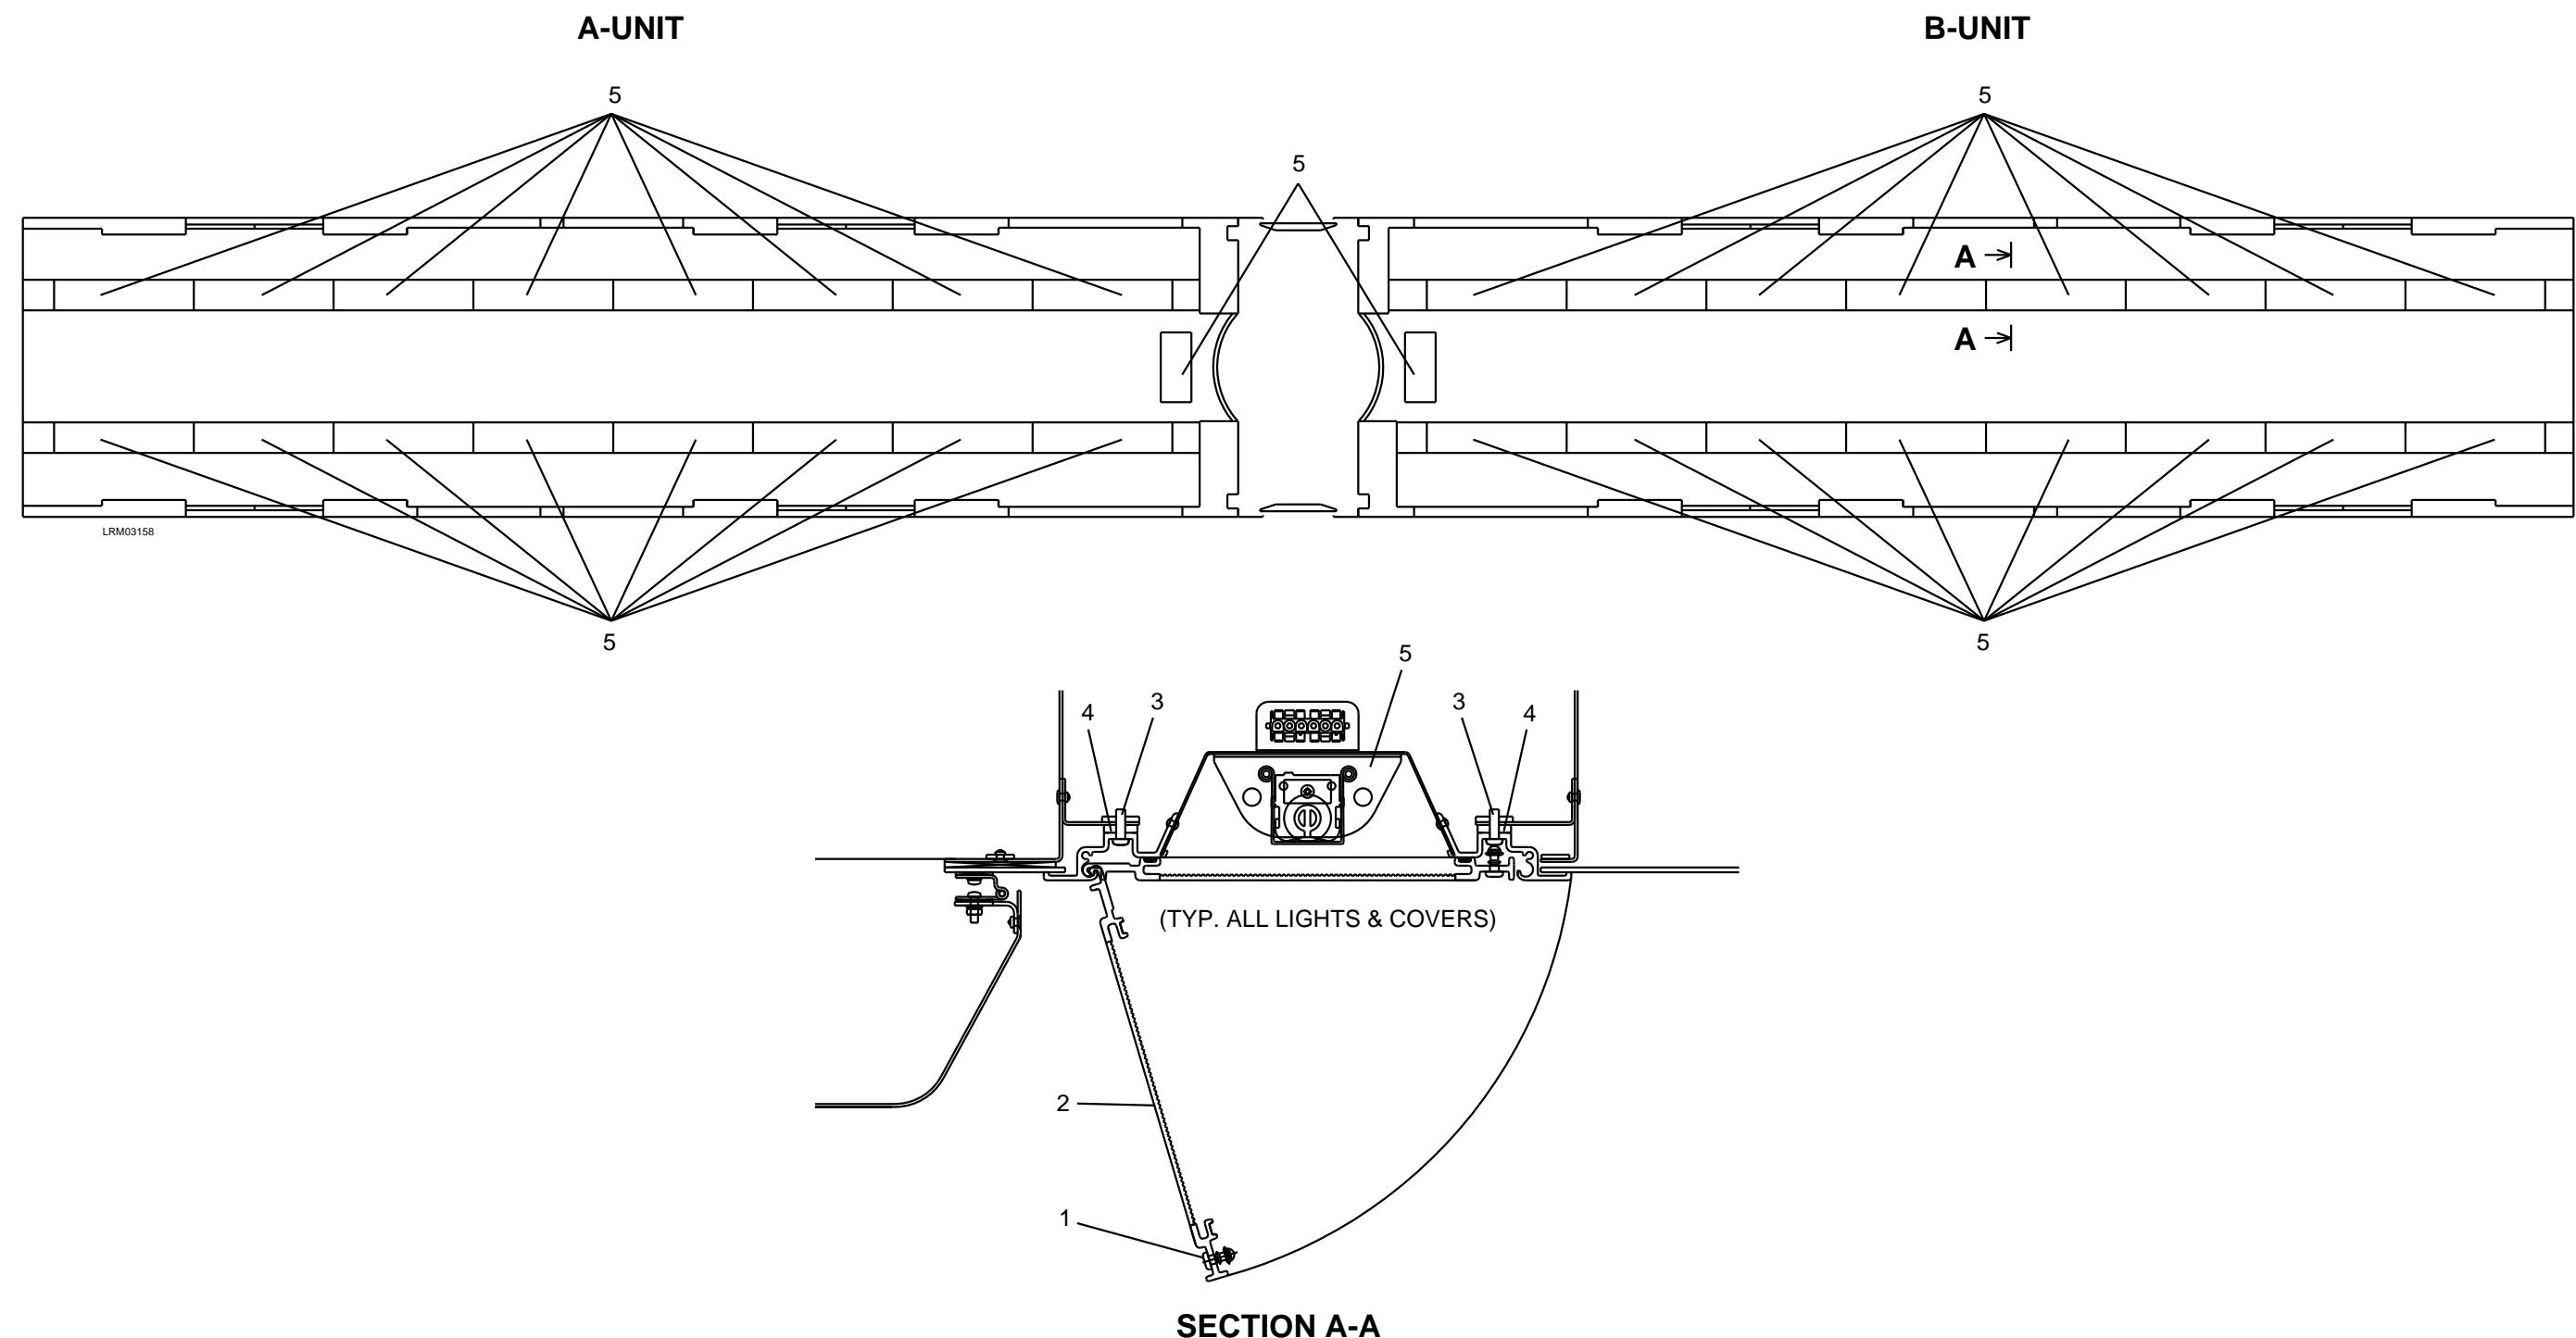

Figure 7-85: Ceiling Lights
1. Turn the three screws (1) counterclockwise one-quarter turn to release the ceiling light cover (2). See Figure 7-85.
2. Remove the eight M4 x 16 screws (3) and liners (4).
3. Lower the Ceiling Light (5) enough to access the wiring.
4. Disconnect the electrical connector from the Ceiling Light (5).
5. Remove the Ceiling Light (5).
6. Repeat steps 1 through 5 for the remaining Ceiling Lights (5).